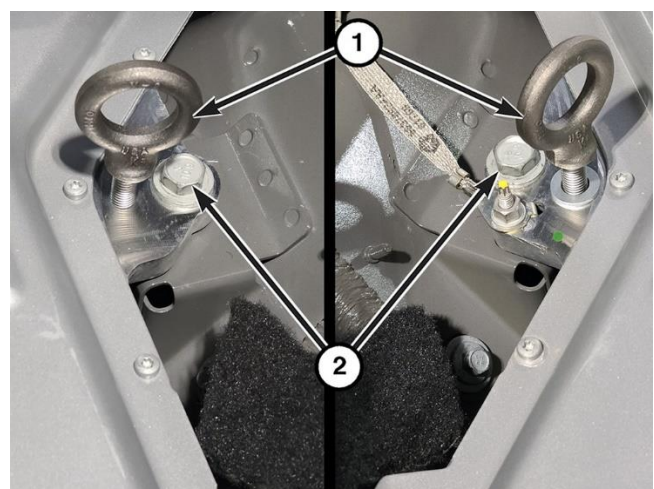

Figure 28 – Eyebolt Installation
42. Thread the other two Eyebolt, 10mm 2035203080 (1) into the threaded holes next to the HV battery pack mounting bolt holes (2) on the rear side of the HV battery pack (Figure 28).